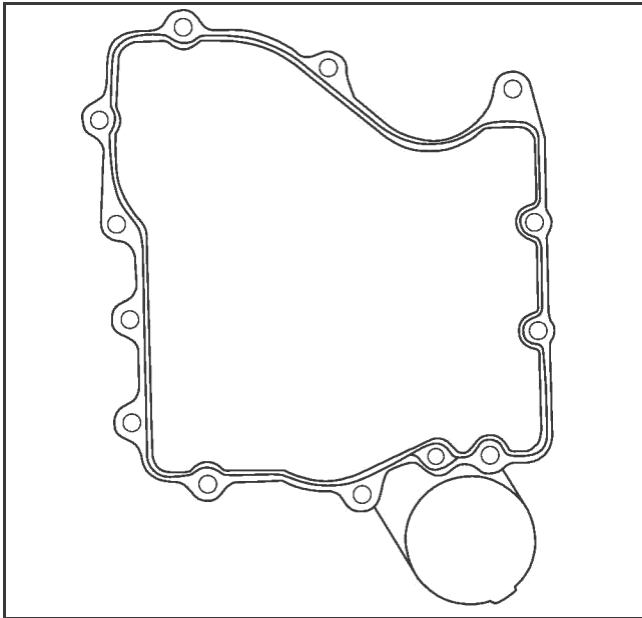

Figure 11-19. Closure Plate Sealant Pattern.
2. Apply a 1/16" bead of sealant to the closure plate as shown in Figure 11-19. Do not spread with finger.